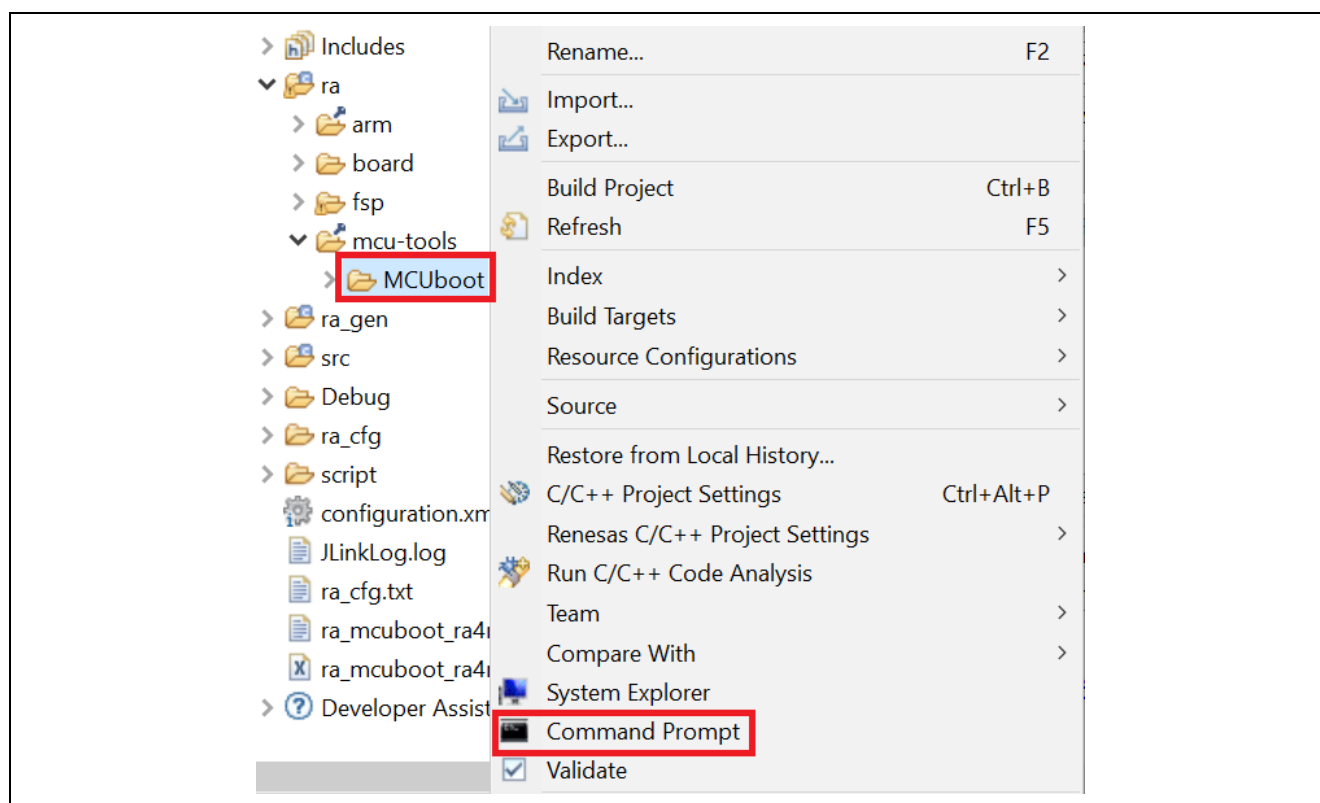

Figure 14. Open the Command Prompt
3. Right click to `MCUboot` folder and select **Command Prompt** as shown in Figure 14. This will open a command window with the path set to the `\mcu-tools\MCUboot` folder.